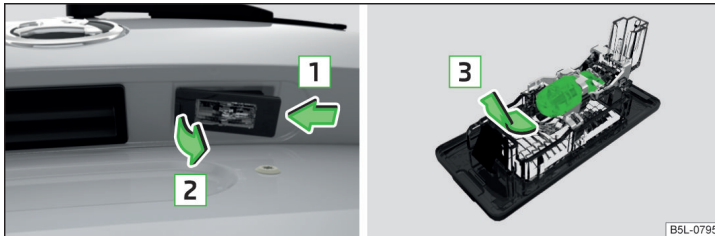

Fig. 203 Remove / replace the bulb for the number plate light
- › Push the light in the direction of arrow 1 » Fig. 203 until it comes loose.